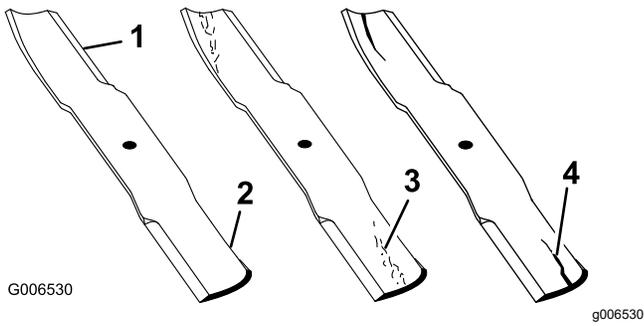

Figure 68
1. Inspect the cutting edges (Figure 68).
4. If you notice any cracks, wear, or a slot forming in this area, immediately install a new blade (Figure 68).